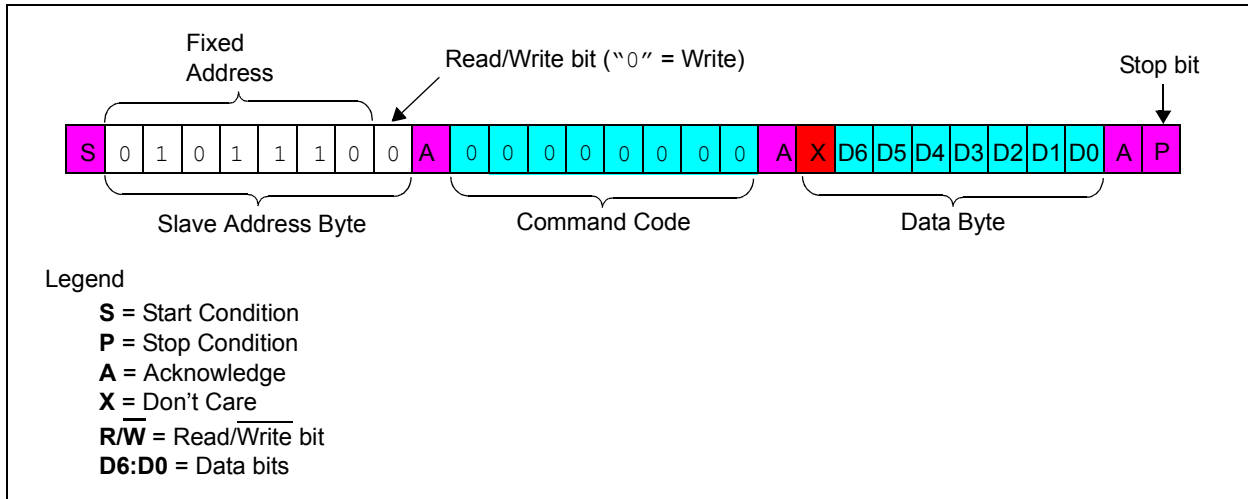

FIGURE 5-11: *I²C Single Byte Write Command Format.*
Data bytes may be written after each Acknowledge. The command is terminated once a Stop (P) condition occurs. Refer to Figure 5-11 for the single byte write sequence and Figure 5-12 for the generic (multi-byte) write sequence. For a single byte write, the master sends a Stop or Restart condition after the first data byte is sent.